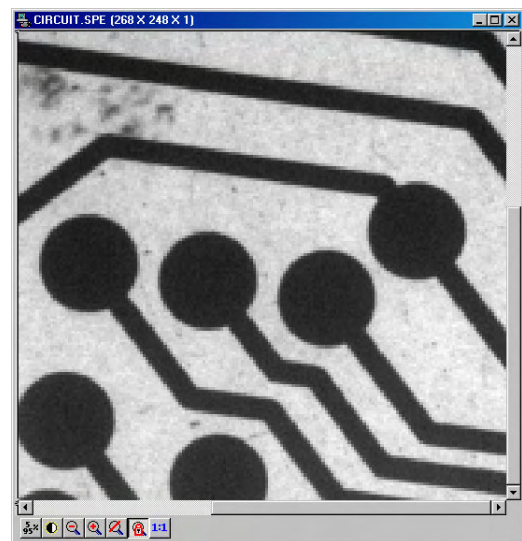

Figure 50. *Circuit.spe expanded to show Defined Region*
2. Click on the  (Zoom In) button. The view will change so that only the selected region is displayed as shown in Figure 50.